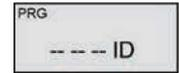

Figure 1
2. Access the Program Mode to enter the "CH 00" Settings. (See Figure 1) (See Access Program Mode on page 1)